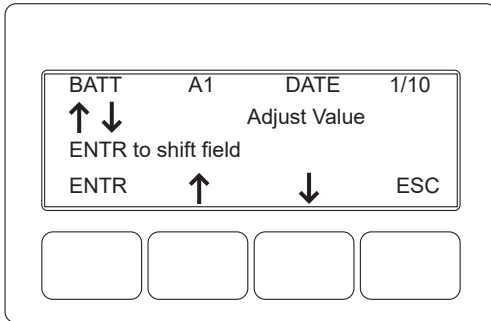

Fig. 2-8, Enter Battery Date Code
9. Enter the battery DATE code and the mhos (conductance) readings. Battery date and mhos entries can be made on the LCD screen (see Figs. 2-8 and 2-9).